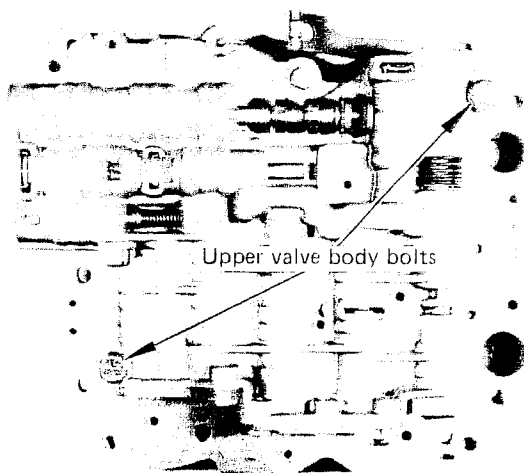

FIGURE 2
side down. Remove the two upper 1/4" bolts with a 7/16" wrench. (See Fig. 2)
STEP 16. Turn valve body over and install the two long $\frac{1}{4}$ " bolts. (See Fig. 2) Tighten to 80-120 in.-lbs. Also tighten all valve body and end plate bolts to 20-40 in.-lbs. in this sequence: One or two hold down bolts, eight valve body bolts, one end plate.